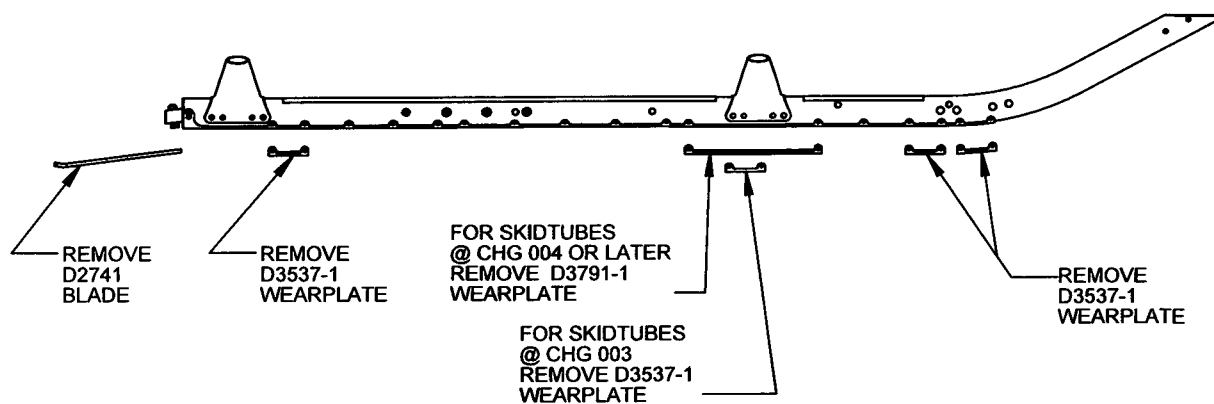

FIGURE 1: BLADE/WEARPLATE REMOVAL
- 4.1 Refer to Figure 1 on sheet 2 of this Service Instruction. Remove and retain the components indicated per ICA-D350-636, Sections 32.3 and 32.4. Ensure the AN8 fasteners are serviceable.